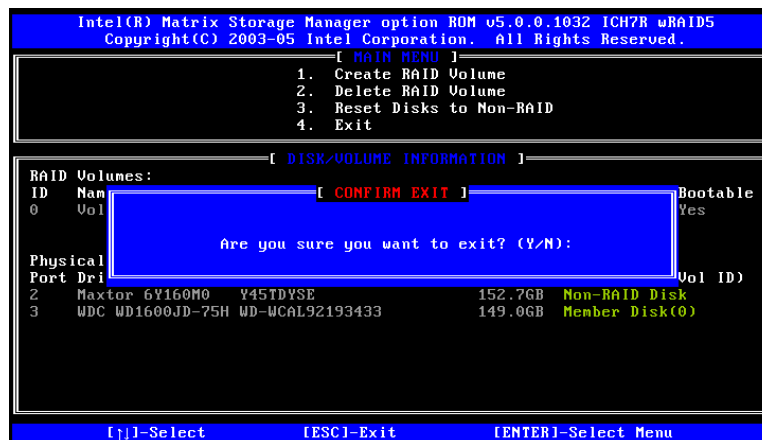

Figure E-17: Exit Verification
Step 2: Exit Verification. Press **Y** to exit the **Matrix Storage Manager**, or **N** to return to the **Main** menu. See Figure E-17.